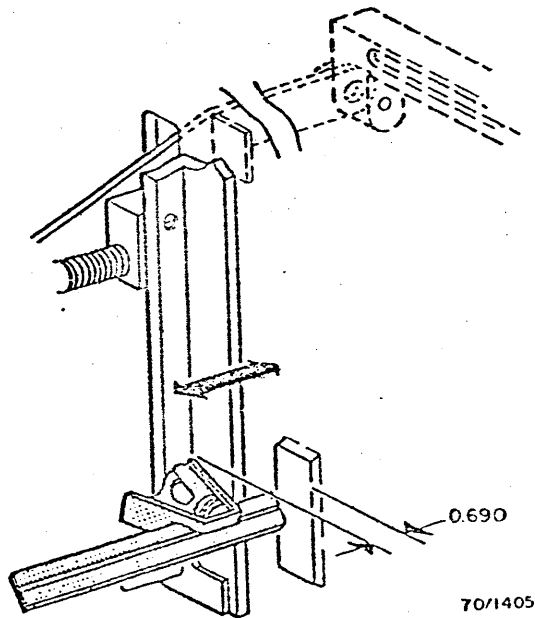

Fig. 3-43. Inboard Paper Guide
2. Set combination square to 0.690. Bank the square against the inboard paper guide and check for proper dimension to the lower milled pad (Fig. 3-43).
3. Set the combination square to 0.690. Bank the square against the inboard paper guide so the end of the square is facing the lower milled pad on the inboard paper feeder frame (Fig. 3-43).